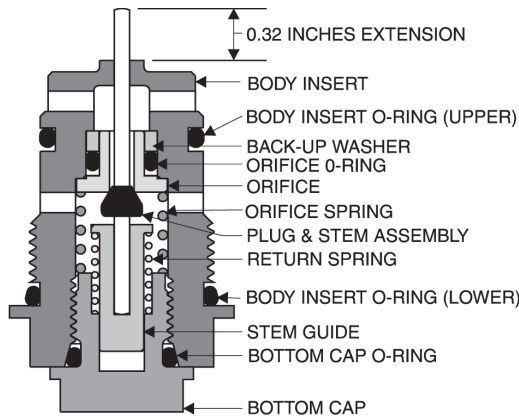

Figure 29
- Body Insert Assembly:** Lift Bottom Cap complete with valve mechanism and insert into Body Insert. The Orifice Spring should snap the Orifice into place as the Bottom Cap is screwed into place. Check the assembly by pushing the Stem against a hard surface to make sure it moves freely and returns to the extended position. Measure the stem extension, it should extend 0.32 inches away from the Body Insert (refer to Figure 29 & 31).